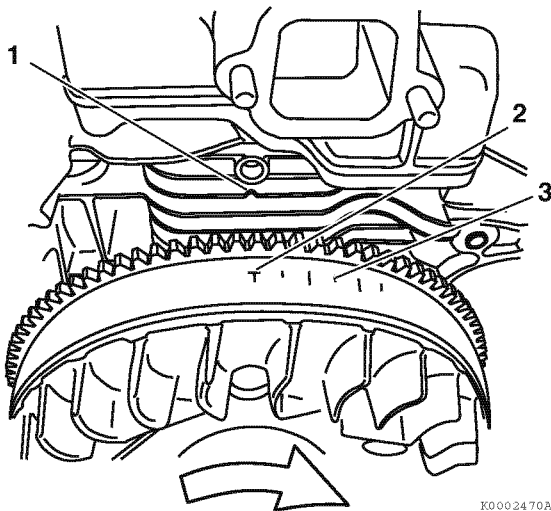
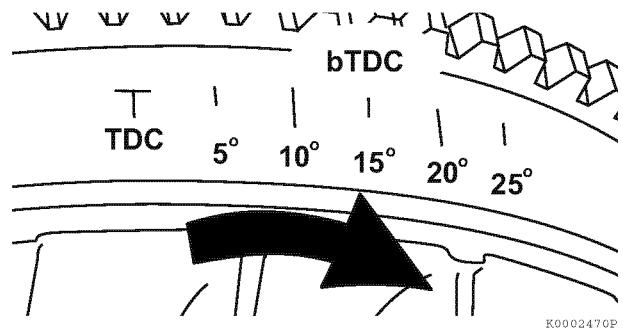

Figure 7-6
Figure 7-7
4. Highlight the TDC timing mark on the cylinder cooling fin (1, **Figure 7-6**).
5. Highlight the TDC (Top Dead Center) (2, **Figure 7-6**) and target timing (3, **Figure 7-6**) marks bTDC (Before Top Dead Center) on the flywheel timing grid (**Figure 7-7**) based on the fuel injection timing chart (**Figure 7-8**).